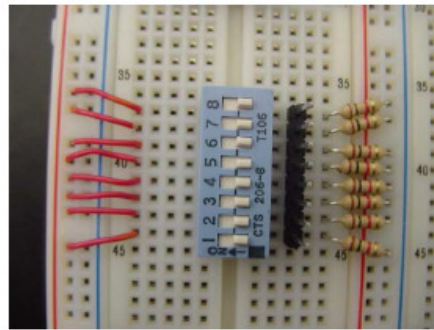

Figure 2. Dip Switches
1. Place a block of 8 DIP switches on your breadboard, see Figure 2.